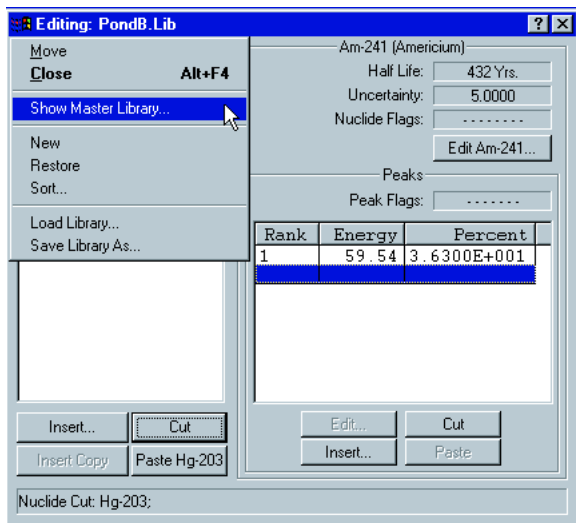
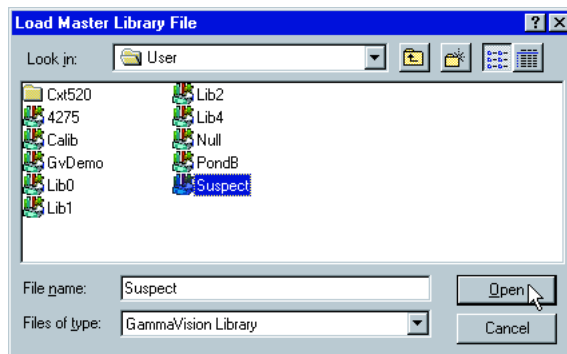

Fig. 31
Fig. 32
2.6 To add nuclides to the library list, click the **Windows icon** in the upper left-hand corner of the editor and select **Show Master Library** (Fig. 31). Choose the **Suspect** library list from the User directory and click **Open** (Fig. 32).